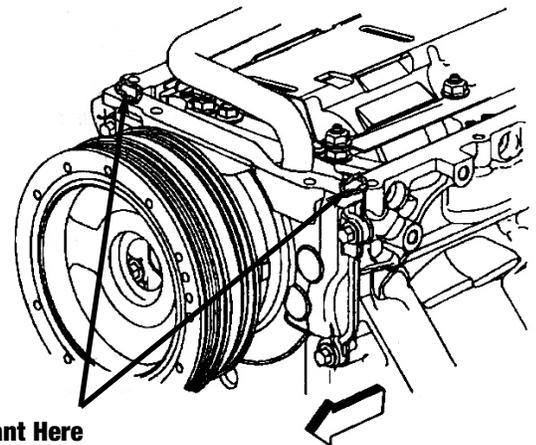

Figure 3 - Sealant Locations
10. Apply a small amount of sensor safe RTV silicone to the areas of the front cover that meet the oil pan sealing surface (See Fig. 3). Tighten the oil pan bolts.